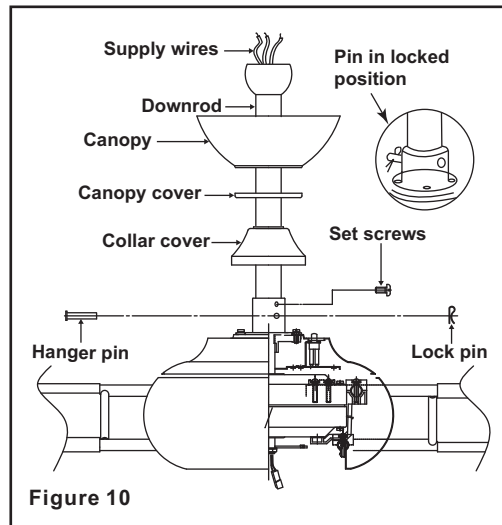

Figure 10
Step 5. Remove the hanger pin, lock pin and set screws from the top of the motor assembly. (Fig. 10)
Step 6. Route wires exiting from the top of the fan motor through the collar cover, canopy cover, canopy and then through the ball / downrod. (Fig. 10)
Step 7. Align the holes at the bottom of the downrod with the holes in the collar on top of the motor housing (Fig. 10). Carefully insert the hanger pin through the holes in the collar and downrod. Be careful not to jam the pin against the wiring inside the downrod. Insert the locking pin through the hole near the end of the hanger pin until it snaps into its locked position, as noted in the circle inset of Fig. 10.
Step 8. Tighten two set screws on top of the fan motor firmly. (Fig. 10)